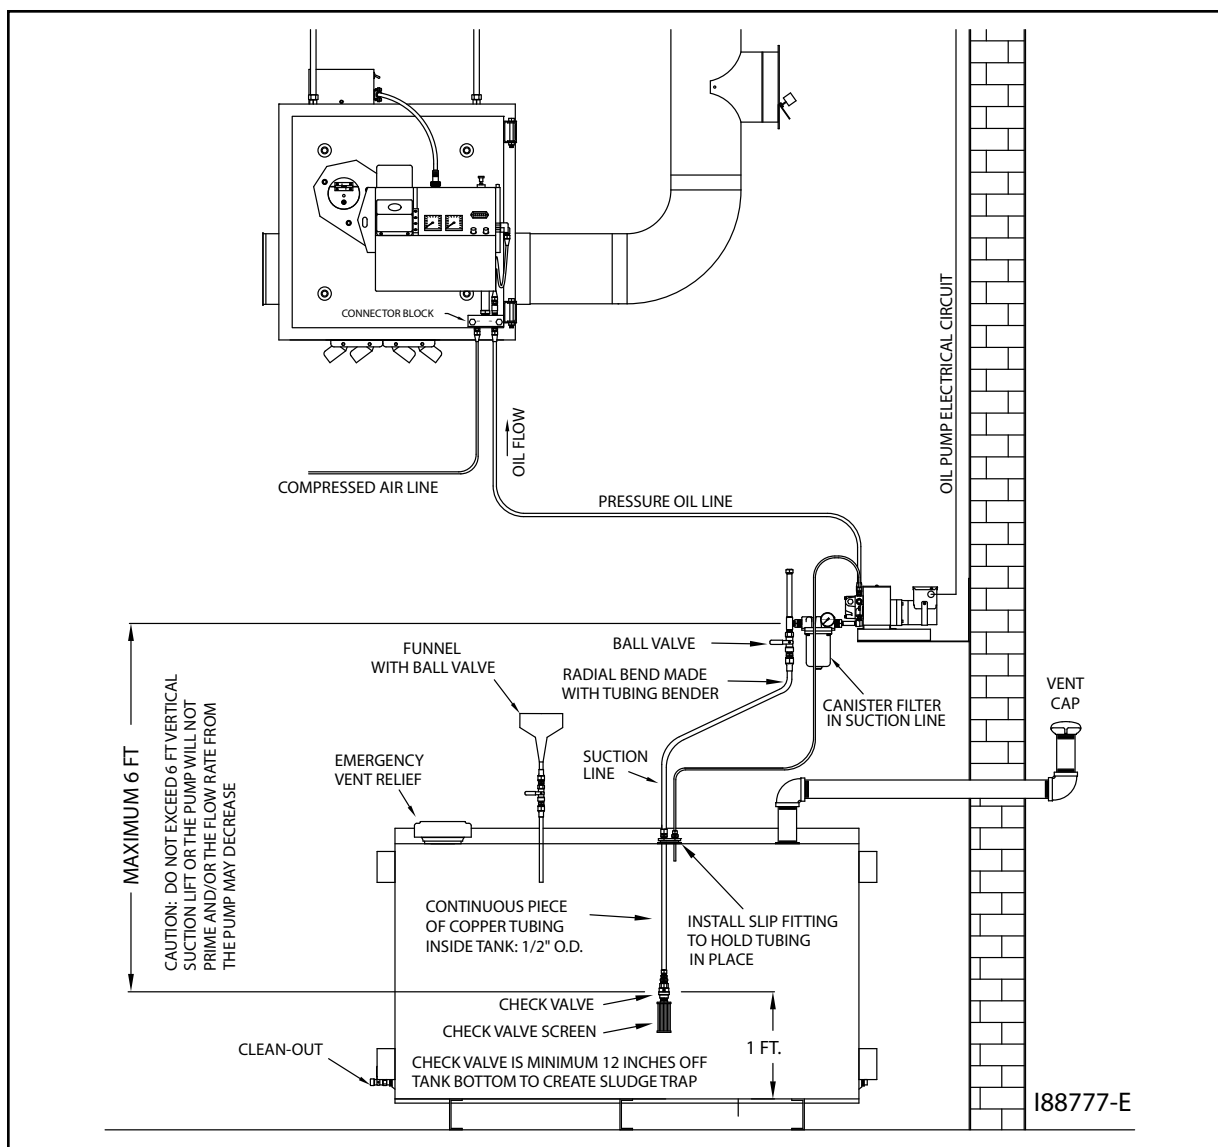

Figure 4J - Oil Line Installation Overview
- u. Install a vent from the tank to the outside of the building according to code. The tank must be properly vented to allow air to enter the tank as oil is pumped out and to safely vent fumes to the outside. See Figure 4J.
4. Install 1/4" O.D. copper tubing (user-supplied) from the pressure relief port back to the oil tank. Refer to Figure 4J as needed.